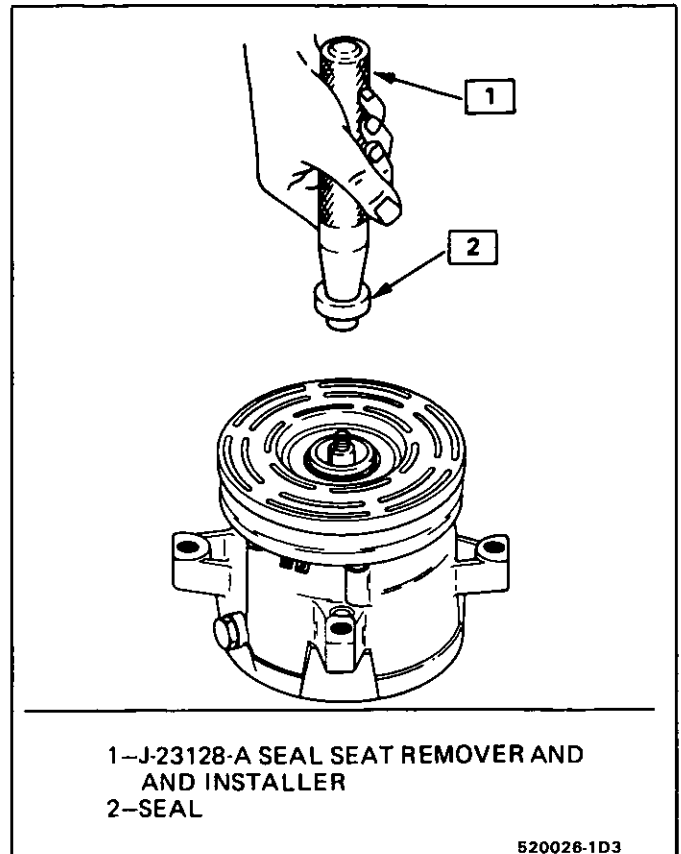

Fig. 25 Removing or Installing Shaft Seal
6. Fully engage the knurled tangs of seal remover-installer J-23128-A into the recessed portion of the seal by turning the handle clockwise. Remove the seal from the compressor with a rotary-pulling motion (Fig. 25). Discard the seal. The handle should be hand-tightened securely. Do not use a wrench or pliers.